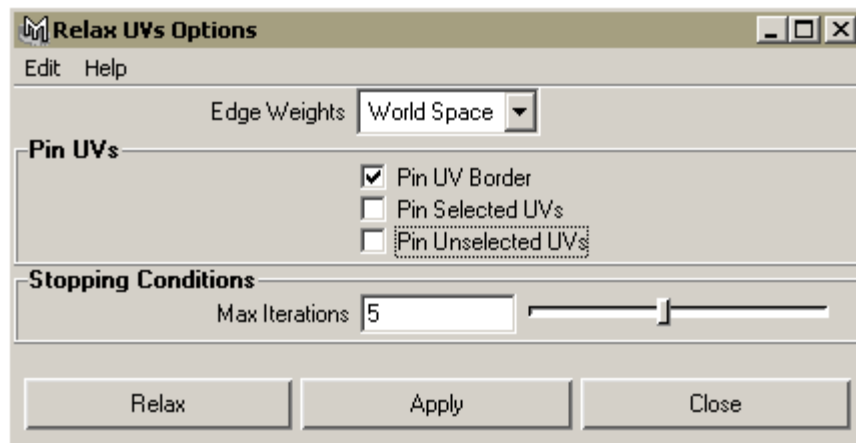

FIGURE 2-23. Relax UV Options dialog
- 5 In the Relax UVs Option box, Figure 2-23,